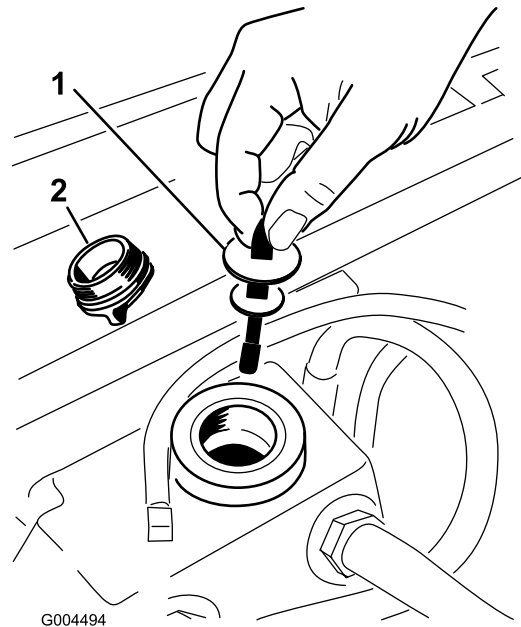

Figure 58
5. Remove the hydraulic fill cap from the filler neck (Figure 58).
6. Remove the dipstick and wipe it with a clean rag (Figure 58).
7. Place the dipstick into the filler neck; then remove it and check the level of fluid (Figure 58).